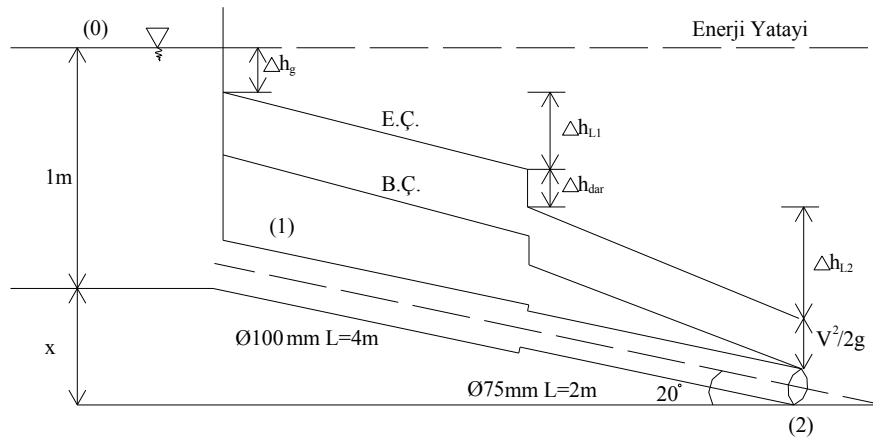

Figure 7.5
**Problem 7.5:** A fluid with a kinematic viscosity  $\nu=15 \times 10^{-7} \text{ m}^2/\text{s}$  flows in the pipe system in Figure 7.5. The roughness of the pipe is  $k=0.001 \text{ m}$  and the minor head loss coefficients of the system are known as  $K_{\text{contraction}}=0.21$   $K_{\text{entrance}}=0.05$ . Find the discharge of the system by using Moody diagram.